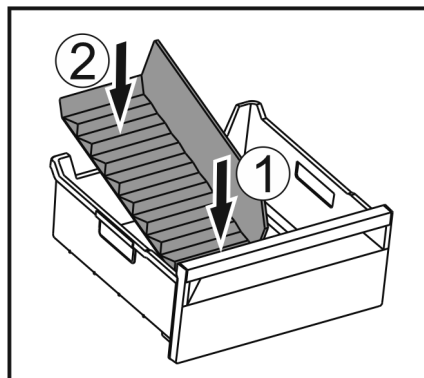

Fig. 118
- ▶ Insert the front part of the ice compartment divider. Fig. 118 (1)
- ▶ Lower the rear part of the ice compartment divider to the drawer bottom. Fig. 118 (2)